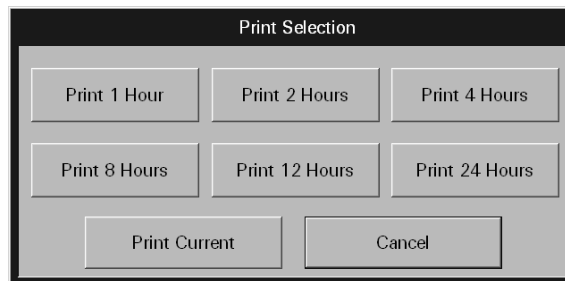

FIGURE 7-8 Print Selection Dialog Box
1. From the **List** view, select the **Print** menu bar button. The Print Selection dialog box (shown in FIGURE 7-8) is displayed.